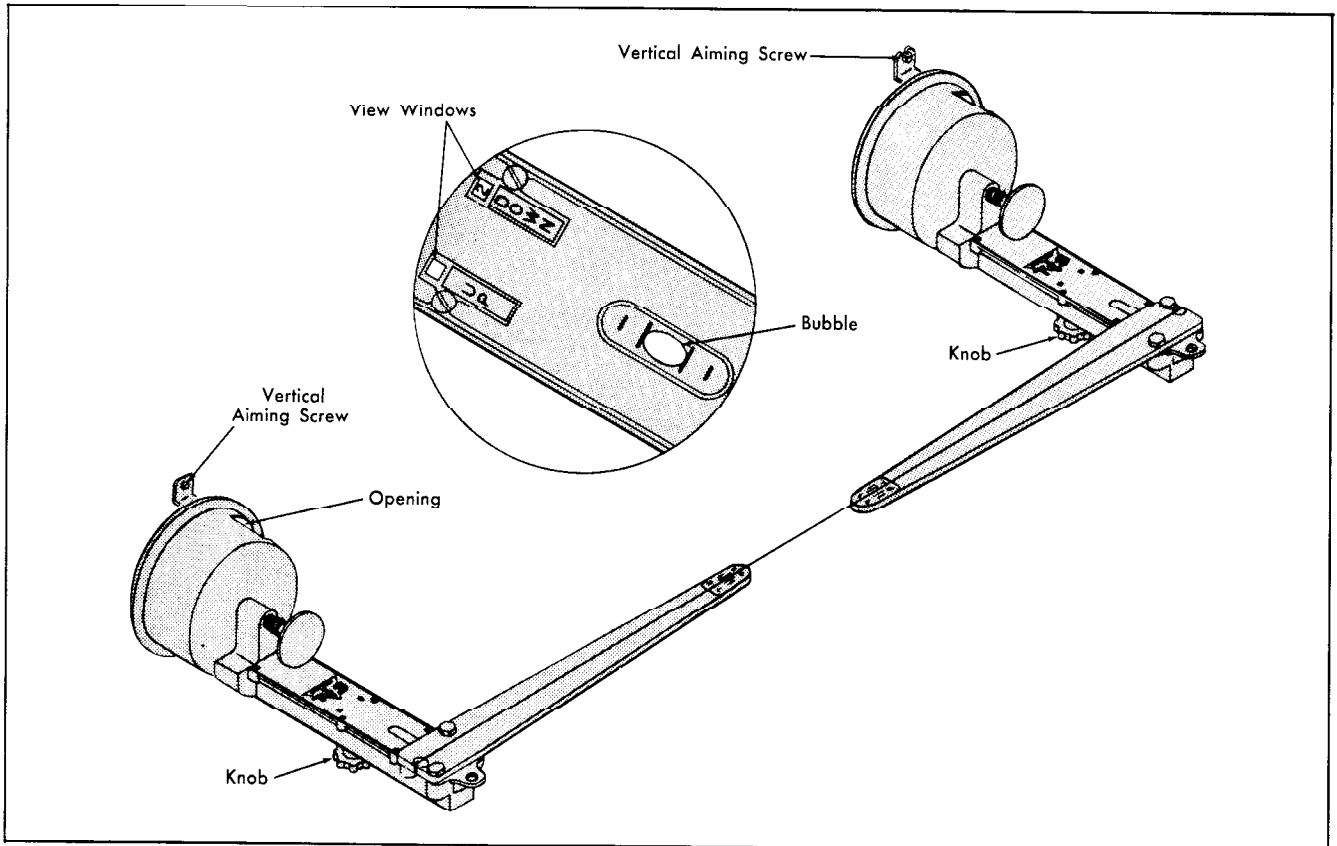

Fig. 13-83 Vertical Aim
- a. Loosen knob "O" on both aimers and move slide until numeral "2" appears in DOWN view window. Tighten knobs. (Fig. 13-83)